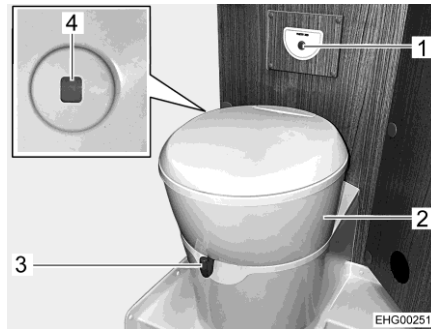

Fig. 70 Toilet
The toilet bowl can be rotated into the required position. In order to do this, grab the toilet's upper part (Fig. 70,2) with both hands and rotate it.
The operating unit with the flush button (Fig. 70,1) is installed near to the toilet bowl.
The colour of the level indicator (Fig. 70,4) changes from green to red whenever the sewage tank has to be emptied.
- Before flushing open the sliding trap of the toilet. To do this, push the slide lever (Fig. 70,3) in an anticlockwise direction.
- For flushing, press the blue flush button (Fig. 70,1).